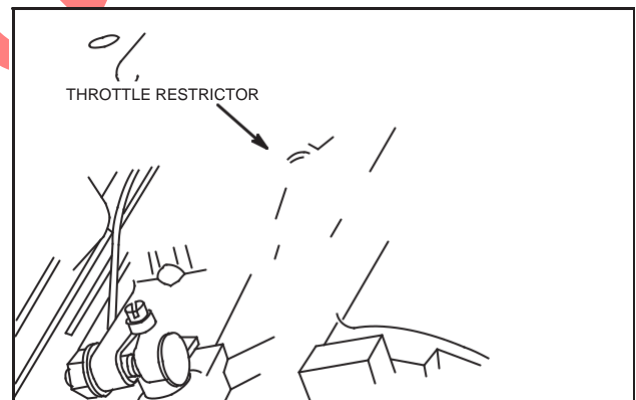

Fig. 28 – Adjusting Throttle Restrictor
4. With engine running at governed idle RPM, bend throttle restrictor tang so that tang just contacts governor lever, Fig. 28.